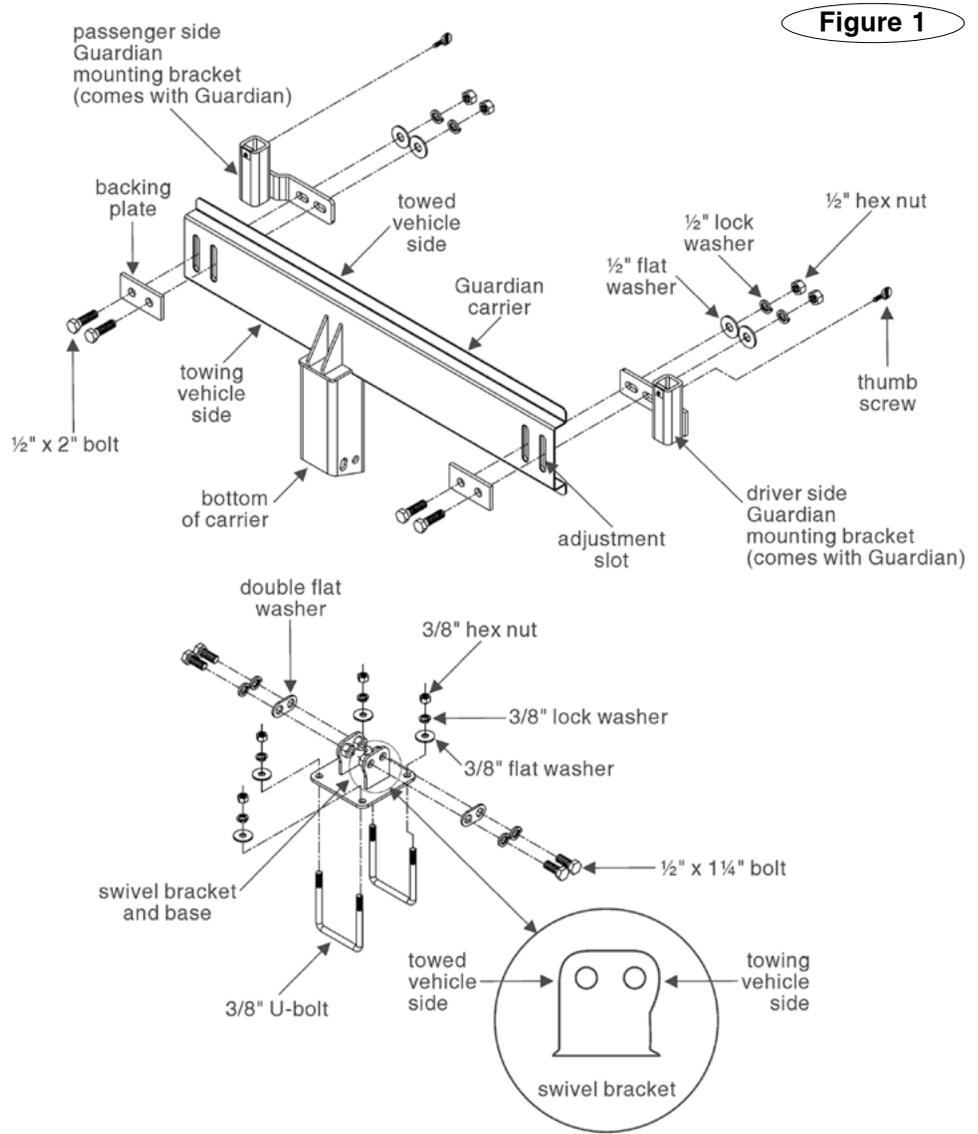

Figure 1
1. Use the 1/2" x 2" bolts, the backing plates, and the 1/2" flat washers, lock washers and hex nuts provided with this kit to attach the passenger side and driver side Guardian mounting brackets (which came with the Guardian) to the Guardian carrier, as shown in Figure 1.
Position the backing plates on the **towing vehicle side** of the carrier, as shown in Figure 1.
2. Insert the **swivel bracket and base** (Figures 1 and 3) into the bottom of the carrier.
Note: the swivel bracket has two sides (inset, Figure 1) – the **towed vehicle side** is flat; the **towing vehicle side** is curved. These sides must match the two sides of the Guardian carrier – use Figure 1 as a reference to identify the towed vehicle and towing vehicle sides.
3. Attach the swivel bracket base to the Guardian carrier – on both sides, position one of the **double flat washers** (Figures 1 and 4) included with the Guardian carrier so that the pre-drilled holes in the washers align to the pre-drilled holes in the carrier and the swivel bracket. Attach the bracket with the provided 1/2" x 1 1/4" bolts and 1/2" lock washers, as shown in Figures 1 and 4.
Attach the Guardian carrier so that the back of the carrier (Figure 5) is six inches away from the farthest extension of the towed vehicle (Figure 5). Use the two provided U-bolts and 3/8" flat washers, lock washers and hex nuts to attach it, as shown in Figures 1 and 5.
a) If the Guardian is too high or too low, adjust the Guardian up or down by loosening the 2" bolts attaching the mounting brackets to the carrier. Then, move the brackets up or down the adjustment slots (Figures 1 and 2) until the Guardian is at the correct height.